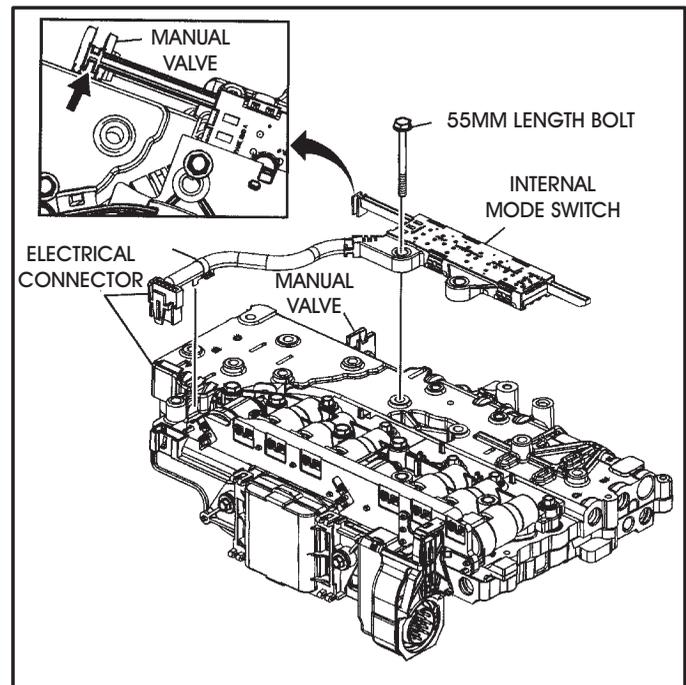

Figure 148
28. Install the manual shift Internal Mode Switch, as shown in Figure 148, using only one 55mm long valve body bolt in the location shown and hand tighten only at this time.
*Note: Align the switch activator slide with the manual valve, as shown in Figure 148.*